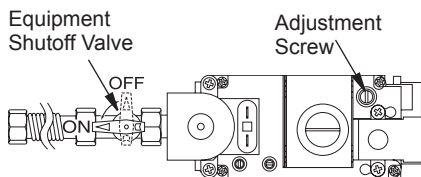

Figure 63 - Turning Equipment Shutoff Valve to the OFF Position
5. Turn equipment shutoff valve clockwise ↻ to the OFF position (see Figure 63). Do not force.
6. Wait five (5) minutes to clear out any gas. Then smell for gas, including near the floor. If you smell gas, STOP! Follow "B" in the safety information on page 32. If you don't smell gas go to the next step.